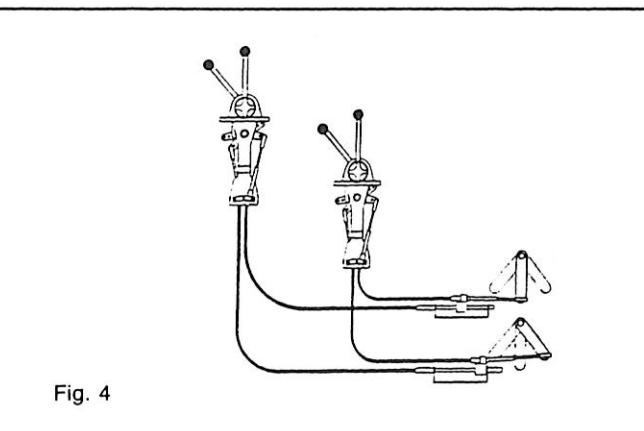

Fig. 4
**3) INSTALLAZIONE CON SELETTORE FIG. 4**
**3) INSTALLATION WITH SELECTOR FIG.4**
**3) INSTALLATION AVEC SELECTEUR FIG. 4**